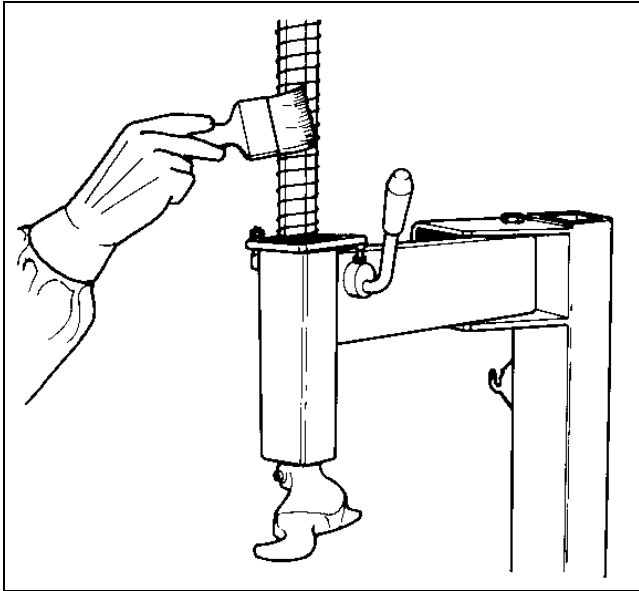

Fig.27
**A.** Periodically clean the vertical hexagonal rod with nonflammable liquid detergent. After this immediately lubricate with oil (Fig.27).